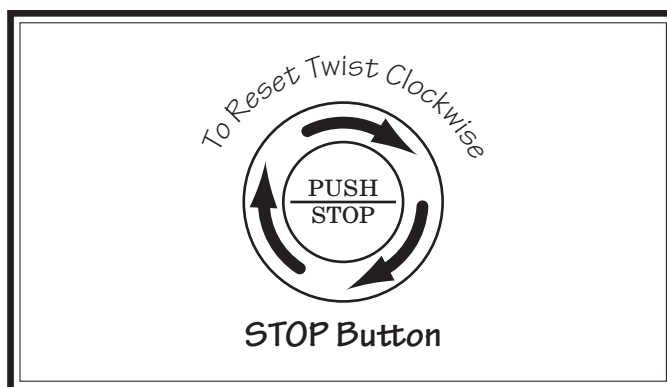

Figure 14. Resetting STOP button.
4. Twist each STOP button clockwise until it springs out (see **Figure 14**). This resets buttons so spindle can start.